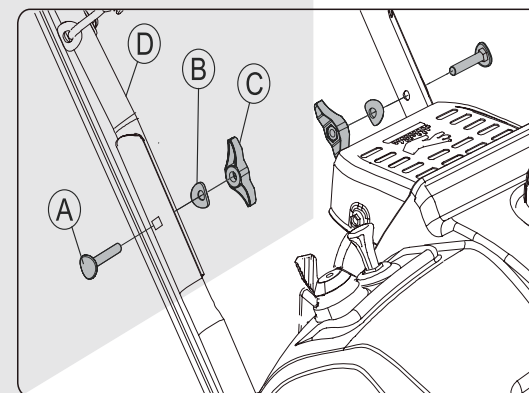

Fig 3
3. Attach the Upper handle to Lower Handle using the square neck bolts (A), curved washer (B) and handle knob (C). (Fig 3)